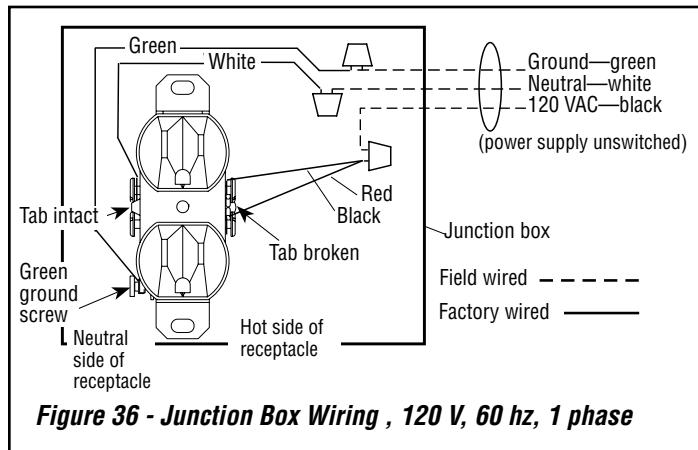

Figure 36 - Junction Box Wiring , 120 V, 60 hz, 1 phase
4. Connect the black power supply wire to the power outlet red and black pigtails together. Connect the white power supply wire to the outlet common terminal (Figure 36).
5. Connect the ground supply wire to the pigtail lead attached to the outlet's green ground screw (Figure 36). Restrain the inlet power lead per NEC or local codes.